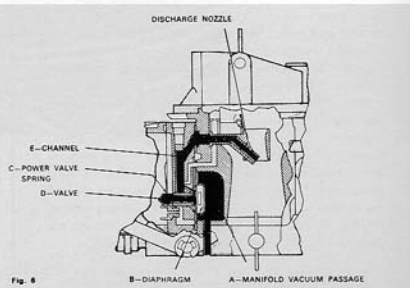

Fig. 6
3. **ENRICHMENT SYSTEMS**—Manifold vacuum through a passage in the primary carburetor main body (Figure 6—A) controls power enrichment. High vacuum at idle or normal cruising conditions holds the diaphragm and valve assembly (B) closed. When manifold vacuum drops during acceleration or power requirement conditions, the power valve spring (C) overcomes reduced vacuum and opens the power valve (D), upward through channel (E) bypassing the main metering jets and then to the discharge nozzle (called out) enriching the fuel-air mixture.